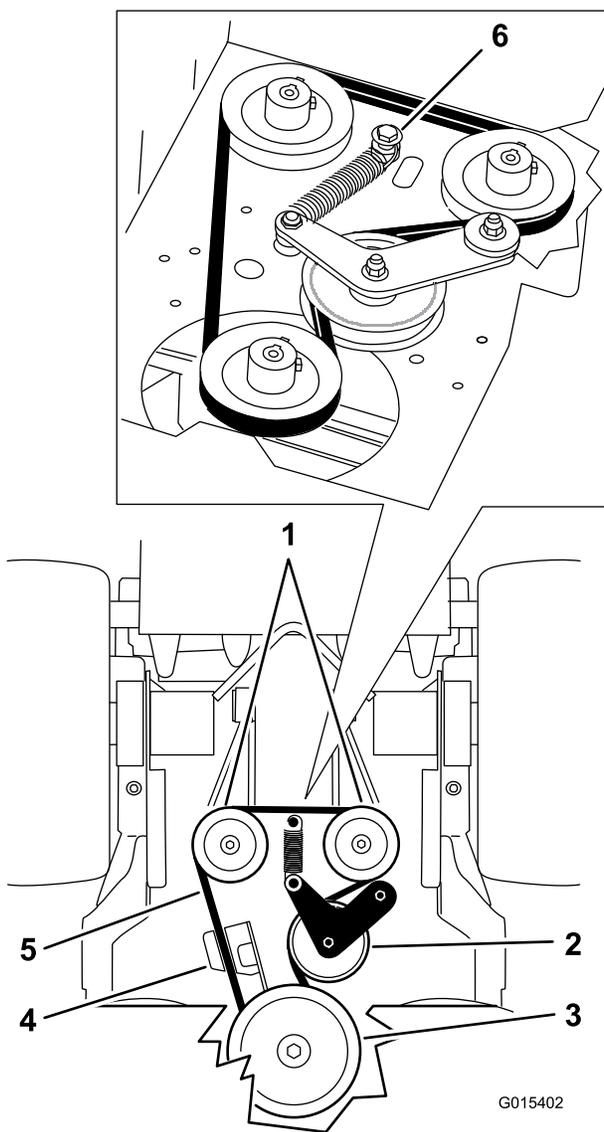

Figure 63
6. Remove the shoulder bolt, the nut, and the washer from the engine deck and connected spring (Figure 63).
7. Remove the pump-drive belt (Figure 63).
9. Install the spring onto the shoulder bolt and washer, and connect it to the engine deck with the nut (Figure 63).